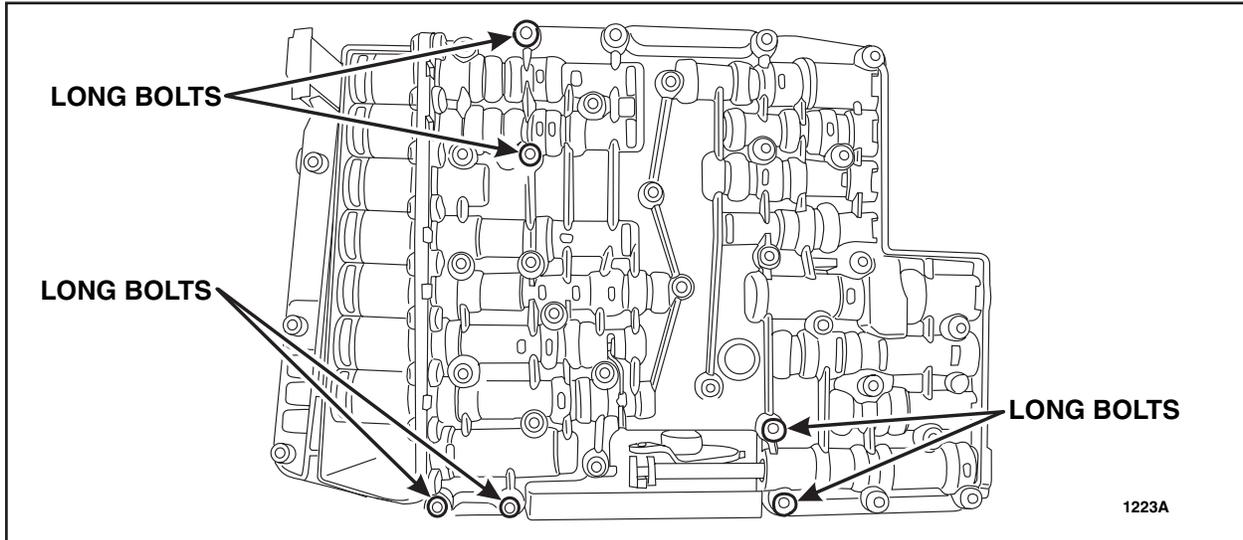

FIGURE 5
8. Install the 6 long bolts to the *new* molded lead frame. See Figure 5.